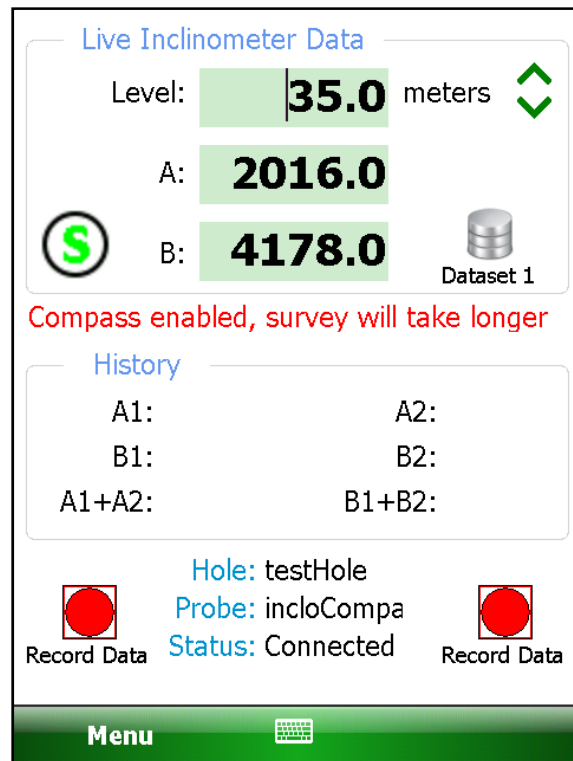

Figure 99 – Compass Enable Message
6. If the GK-604D IRA has detected an inclinometer with the integral compass, tapping the “Menu” option will display the menu shown in Figure 36. Tapping the menu option, “Enable Compass Survey”, will display the message shown (in red) in Figure 99 for approximately 5 seconds and will enable the compass survey option. This message informs the user that, with the compass enabled, an inclinometer survey will take approximately 30% longer.